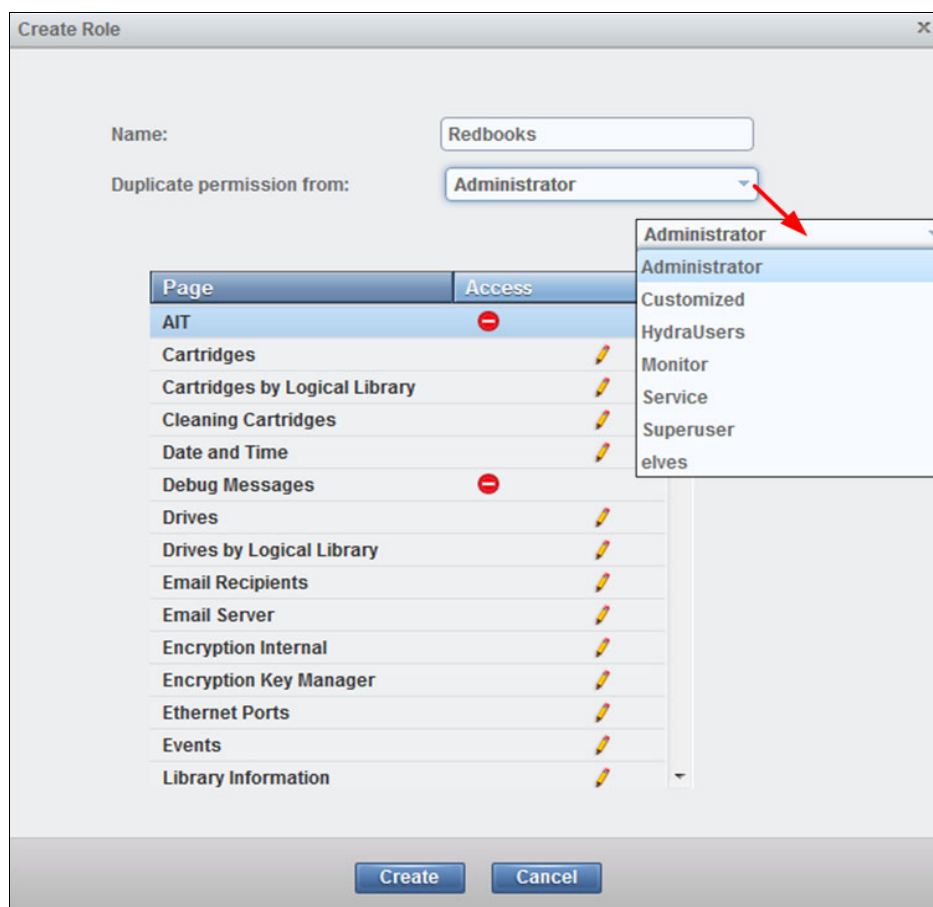

Figure 4-68 Creating a role
4. Select one of the preset role permission levels from the Duplicate permission from list box (see Figure 4-68). All roles can access all LLs in the TS4500 Tape Library.